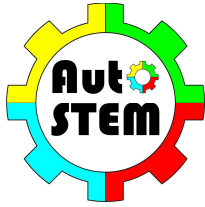

Figure 11: Measuring the thread with a ruler
6. Cut the thread into five pieces of about 50 cm each. You can use a ruler for measuring (see Figure 11) or a cubit (i.e. the length from the middle finger's tip to the bottom of the elbow).